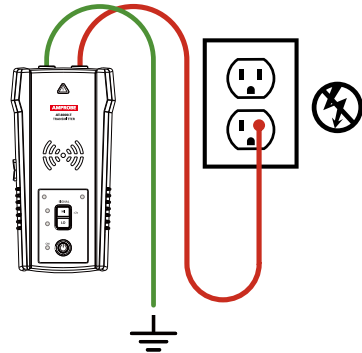

Figure 3.2a: Proper connection with separate ground
2. Using provided test leads, connect the green wire to a separate ground (metal building structure, metal water pipe, or ground wire on a separate circuit) (Figure 3.2a).